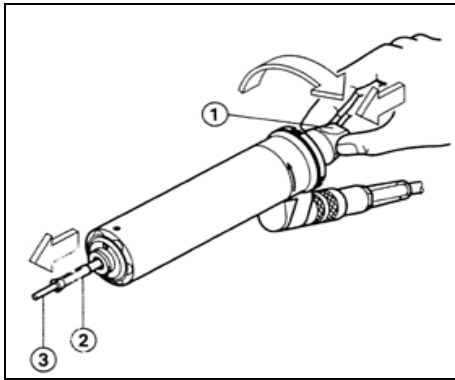

Figure 11.3
As shown in Fig. 11.3, press the knob on top of the motor ① then rotate in the direction indicated by ➡ until the cutter clamp ② is released.